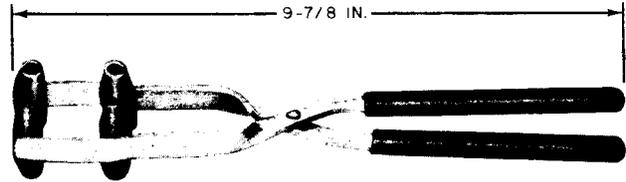

Fig. 15—Morrill and Morrill No. 218 Electron Tube Extractor
2.16 Morrill and Morrill No. 218: The Morrill and Morrill No. 218 extractor (Fig. 15) is used to extract 310-type and 311-type electron tubes.